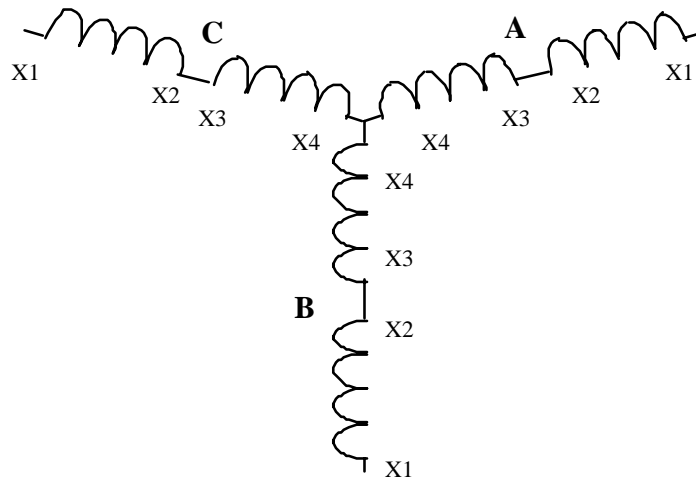

Figure 5
- e. Fourth, connect the third secondary winding as shown in Figure 5 below. Turn on the power and take the primary side up to approximately 1/2 rated voltage. Measure all three open ended voltages and explain results in the conclusion.